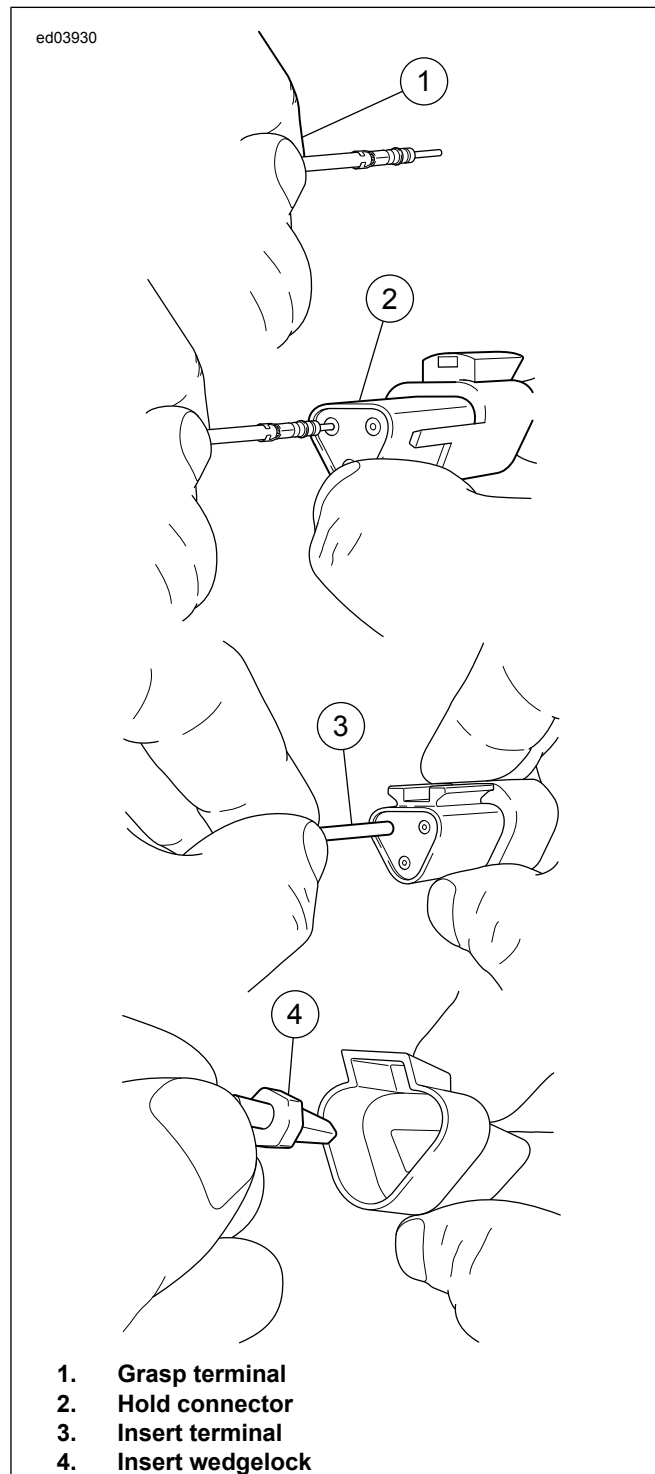

Figure B-18. Inserting Terminals
1. See Figure B-18. Grasp terminal approximately 1.0 in (25.4 mm) behind the terminal barrel.